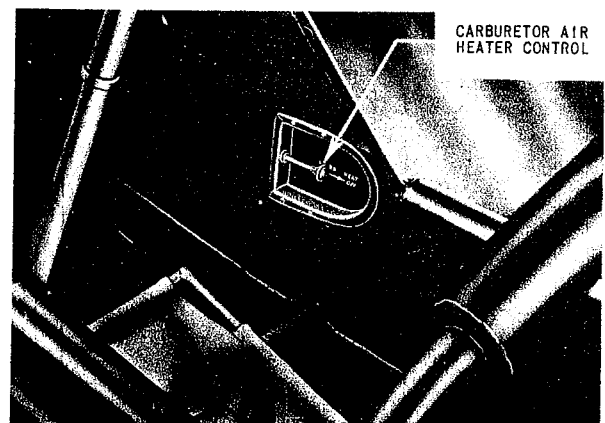

Figure 11—Lower Right Side of the Cockpit
c. LOWER RIGHT SIDE. (See figure 11.)—The only control on the lower right side of the cockpit is the carburetor air heater. Pushing forward applies the heat. When the control is fully forward, the heater is at its maximum. A valve in the air box below the carburetor permits taking heated air from the exhaust manifold shroud into the carburetor. The use of the carburetor heater is necessary to prevent icing or to remove the ice formation in the carburetor and around the throttle valve. This causes loss of power and, therefore, should be used only when necessary. Pull back the control as far as possible in order to shut off the heater completely.